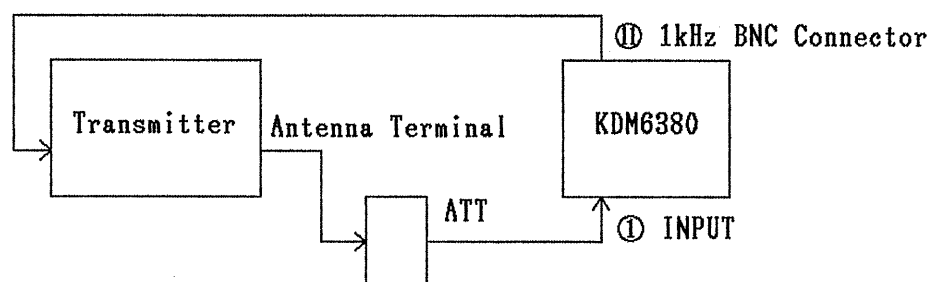

Fig. 4-5
1. Make connections as shown in Fig. 4-5.